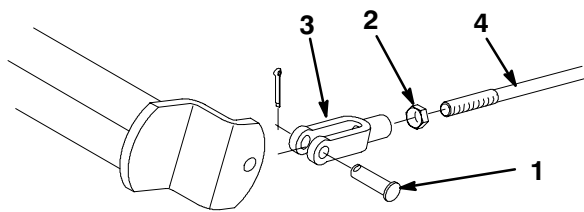

Figure 38
2. Loosen the jam nut and adjust the clevis accordingly (Fig. 38).
3. Assemble the clevis to the brake shaft (Fig. 38).